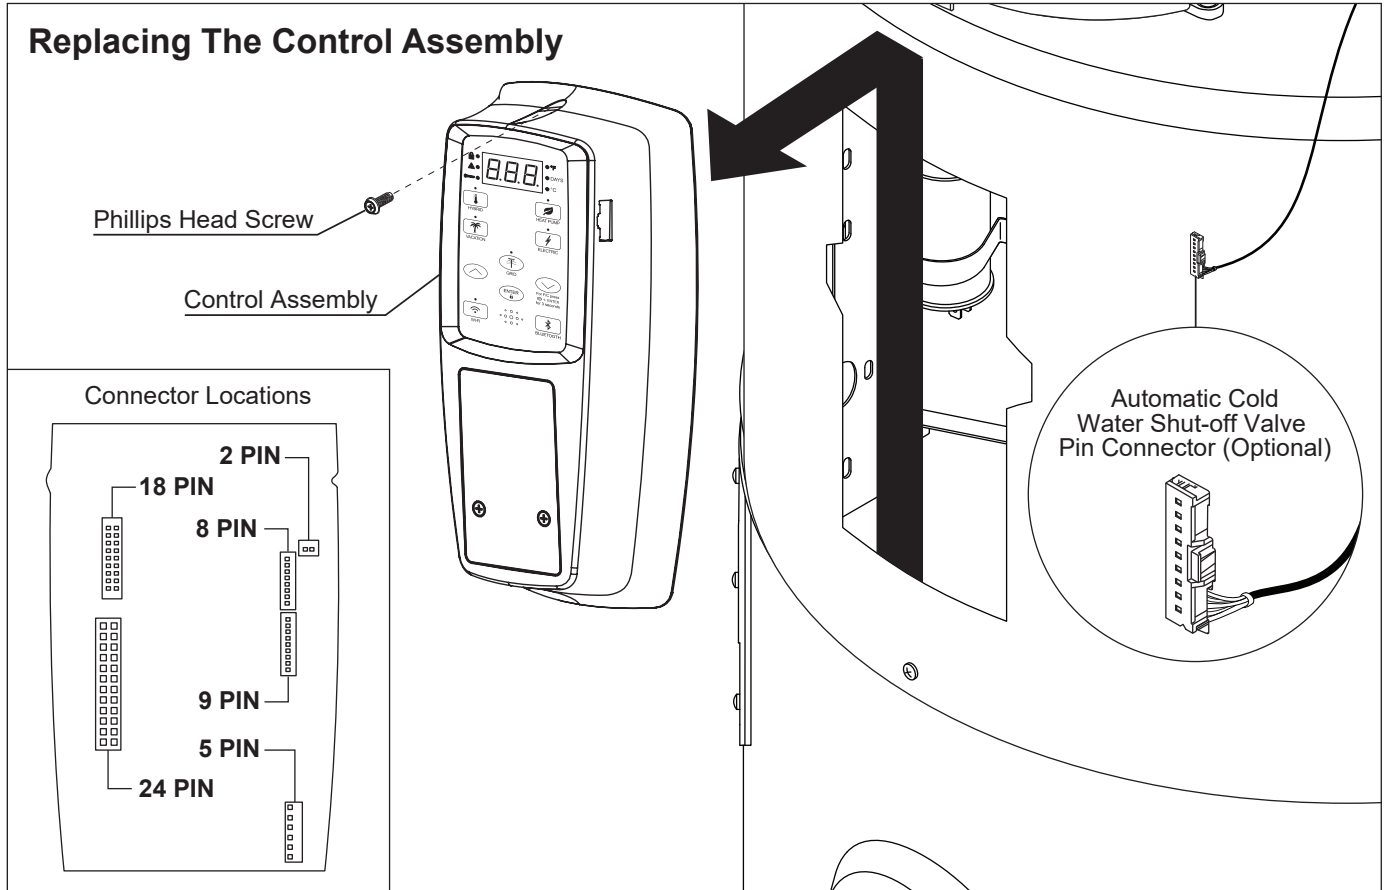

Figure 32 - Replacing the Control Assembly
- 3 Remove the Phillips head screw from the control assembly and set it aside to be used with the new control assembly. If equipped, disconnect the automatic cold water shut-off valve pin connector from the right side of the control assembly and place it out of the way (see Figure 32 on page 29).
- 5 Disconnect all six (6) connectors from the control assembly board. Properly dispose of damaged control assembly.
- 6 Reconnect all six (6) connectors to the new control assembly by snapping them into place (see Figure 32 on page 29 for pin connector locations).